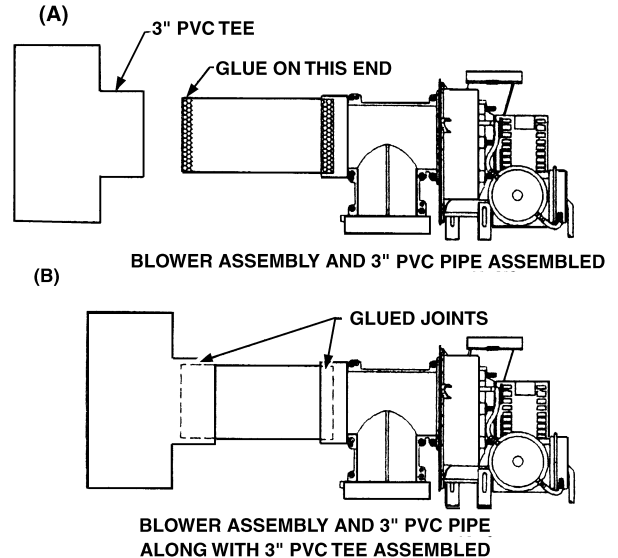

FIGURE 11
8. Locate the blower assembly and previously glued 3 inch PVC pipe and the 3 inch PVC tee. Before gluing the tee and pipe together, first insert pipe into tee and make sure the alignment is correct, glue the pipe and 3 inch PVC tee together. (Fig. 11)